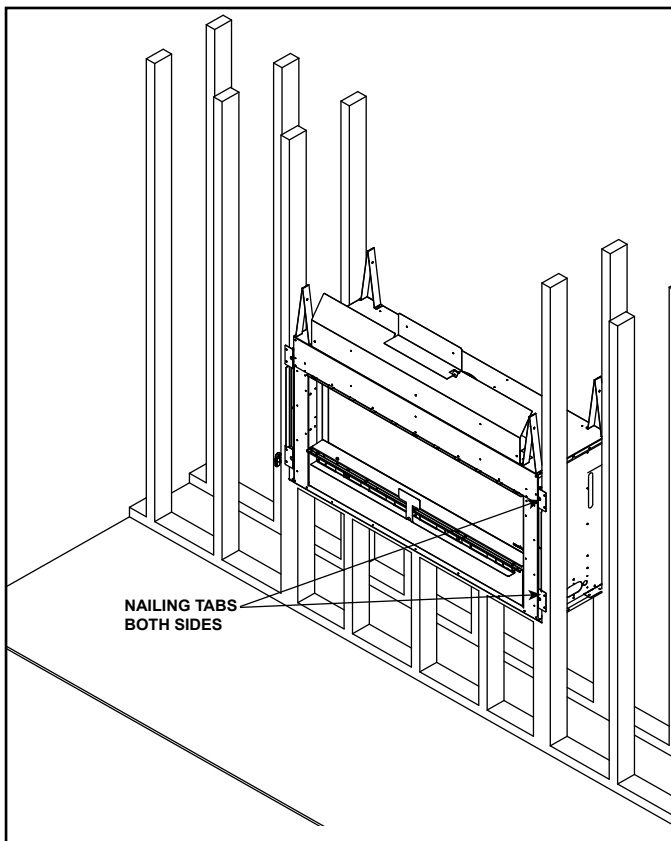

Figure 6.2 Nailing Tab Locations
- Keep nailing tabs flush with the framing. See Figure 6.2.